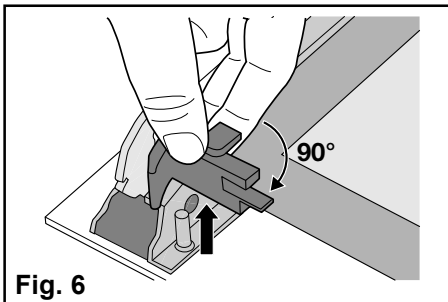

Fig. 6
- 8) turn the 2 fasteners 90° and extract them from their seats (Fig. 6);